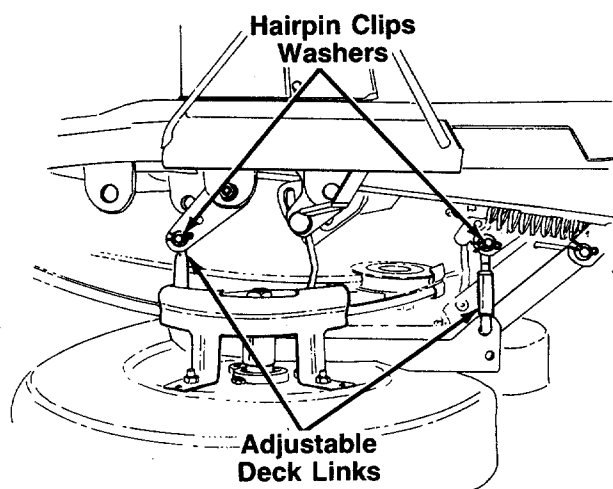

FIGURE 13.
- Disconnect the adjustable deck links from the deck lift pivot brackets on the left side of the unit by removing the hairpin clips and flat washers. See figure 13.
1. Remove the hex nut and lock washer, and drop the tie rod end from the wheel bracket. See figure 13.